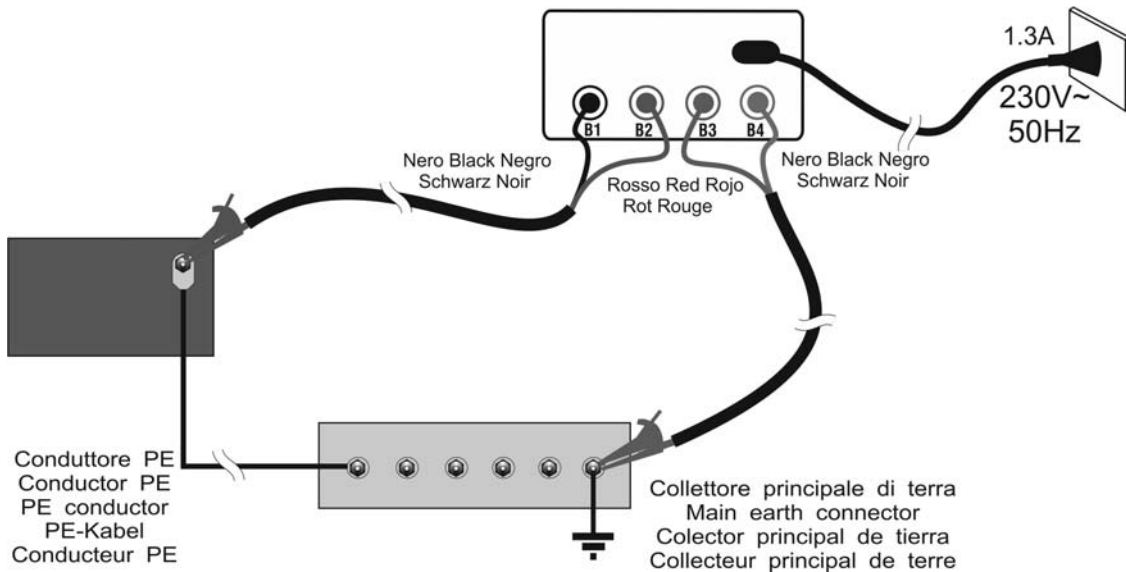

Fig. 5: Instrument connection for LOWΩ10A test
4. Connect the connectors of the measuring cables C7000 provided to the instrument's input terminals **B1** (Black), **B2** (Red), **B3** (Red), **B4** (Black) and the alligator clips to the item to be tested as indicated in Fig. 5